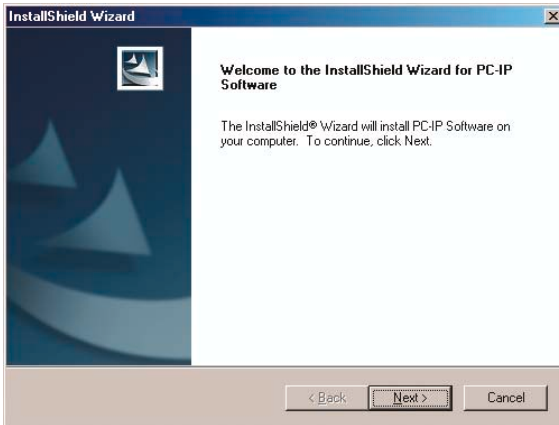

Figure 2-1
- When the window for the CD-ROM files opens, click on the setup program, PC-IP setup.exe, and click Enter. A Welcome screen will be displayed (Figure 2-1). Click on Next to continue.